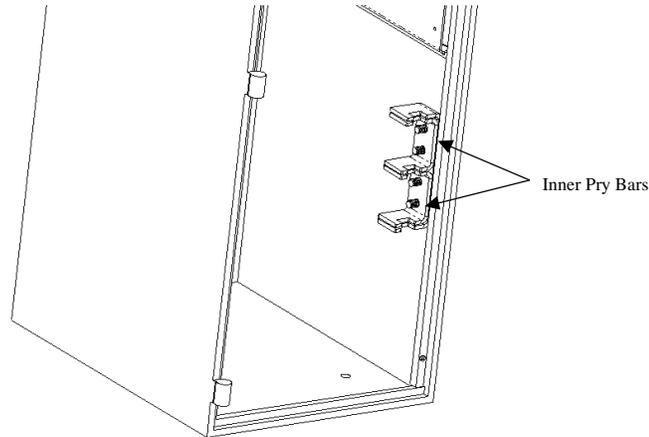

Figure 5. Attaching the Inner Pry Bars.
- Attach the two inner pry bars over the top of the outer pry bar. Again, make sure the notches in the bracket are facing the front of the cabinet. See Figure 5.